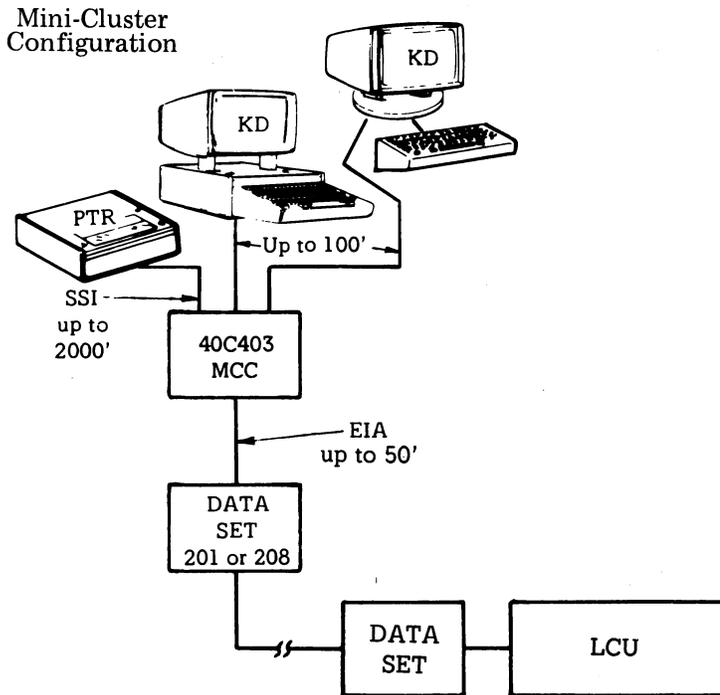

Fig. 2—Mini-Cluster Configuration
2.02 A Mini-Cluster Controller (MCC), shown in Fig. 2, is configured with one to three devices. The MCC must have one KD but not more than two KDs.